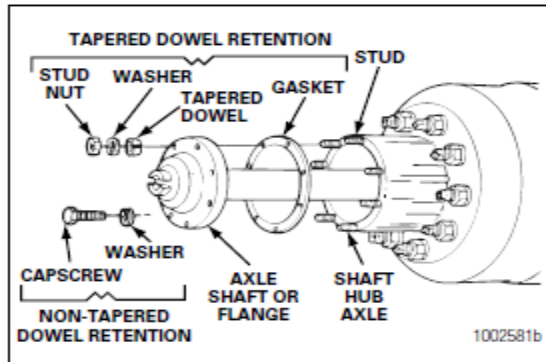

Figure 5.83
13. Install the gaskets and axle shafts into the axle housing and carrier. The gasket and flange of the axle shafts must fit flat against the wheel hub. Figure 5.83.
3. Install the gasket and the axle shaft into the housing. The gasket and the flange of the axle shaft must fit flat against the wheel hub. Figure 5.83.